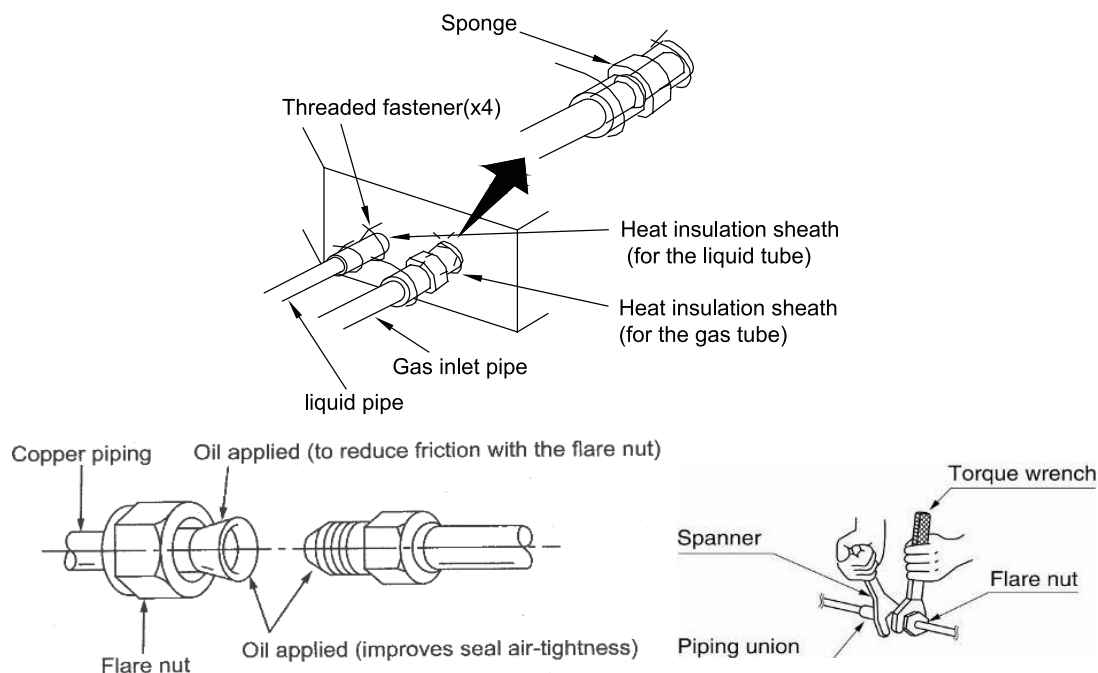

Figure 3-2-6
When connecting the pipe to the unit or removing it from the unit, please do use both the spanner and the torque wrench. (Figure 3-2-6)
Examine the connection pipe to see if it leaks, then take the treatment of heat insulation, as shown in the Figure 3-2-6.
(1). For solid core wiring (Figure 3-2-6)
(2). For strand wiring (Figure 3-2-6)